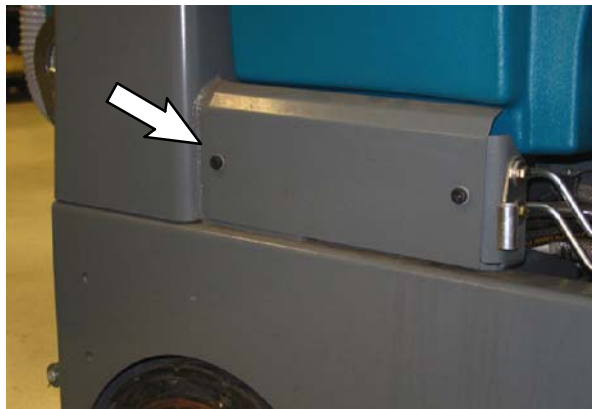

FIG. 2
11. Remove the lower cover from the machine. Set the lower cover and hardware aside. Refer to Fig. 2.